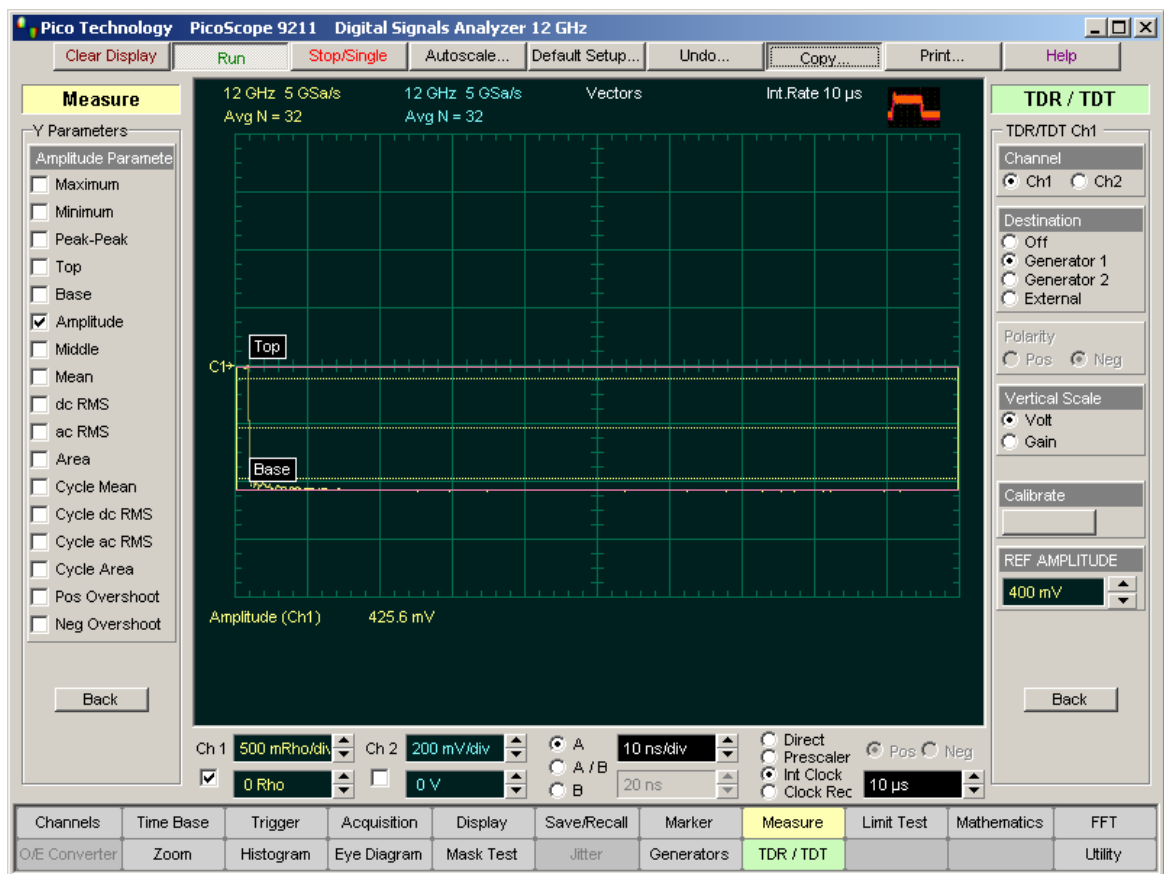

Figure 1
5. Check **Amplitude**. See Figure 1.